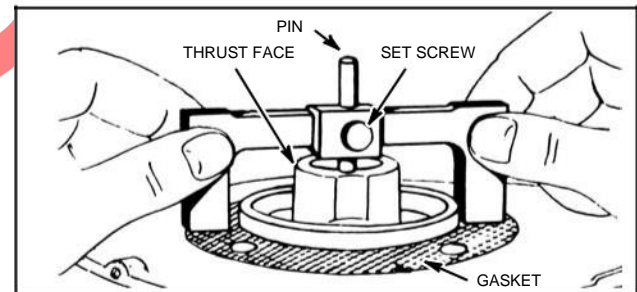

Fig. 896 - CHECKING END PLAY
Lay magneto with thrust face up. Put a standard .015" magneto gasket in place. Place end play gauge on magneto with long legs of crossbar against gasket on machined mounting face of magneto, Fig. 896. If end play is correct, the gauge will touch all three (3) points. If there is not enough end play, the pin will touch thrust face and there will be clearance at the leg of the crossbar. If end play is too great, the clearance will be at the pin.